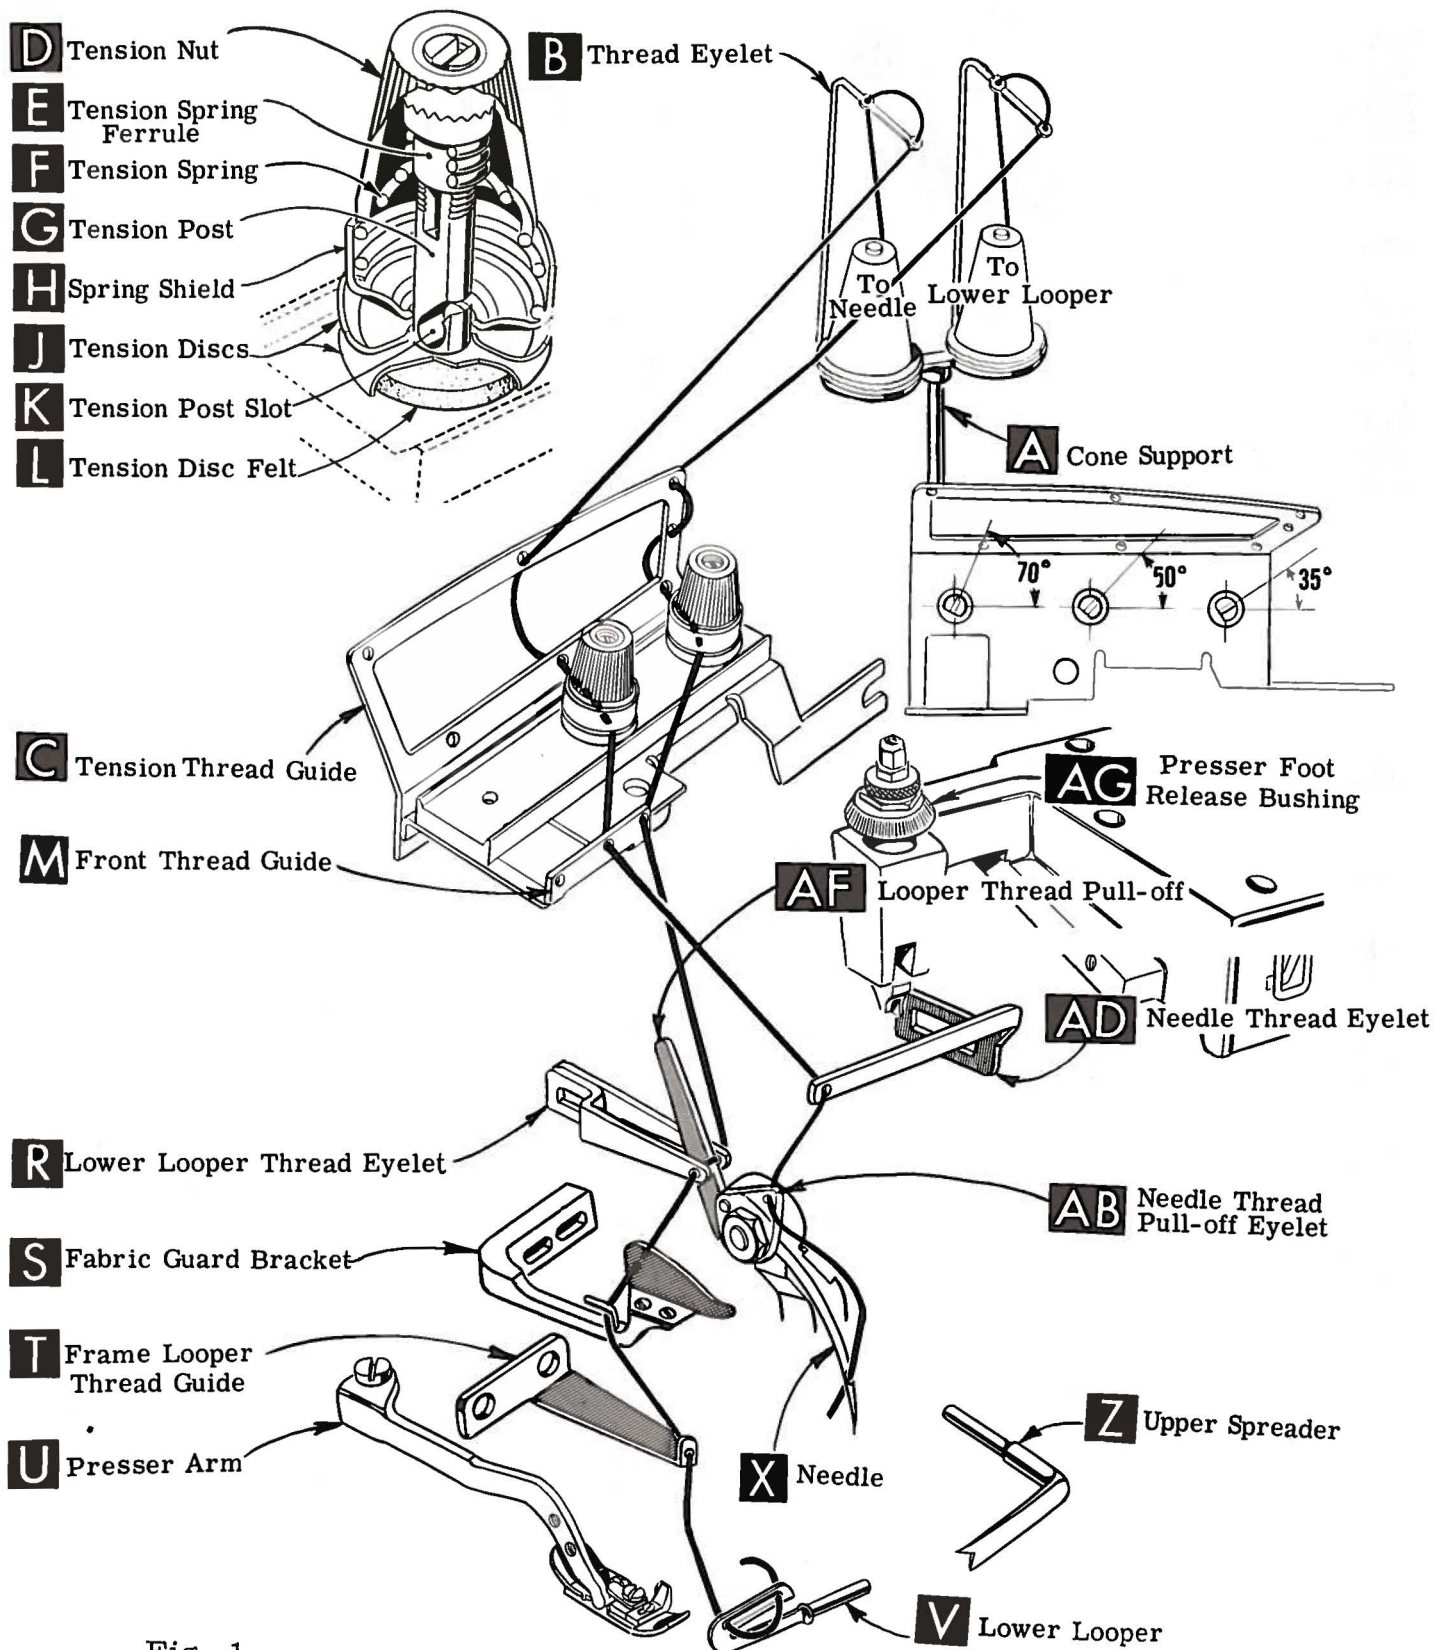
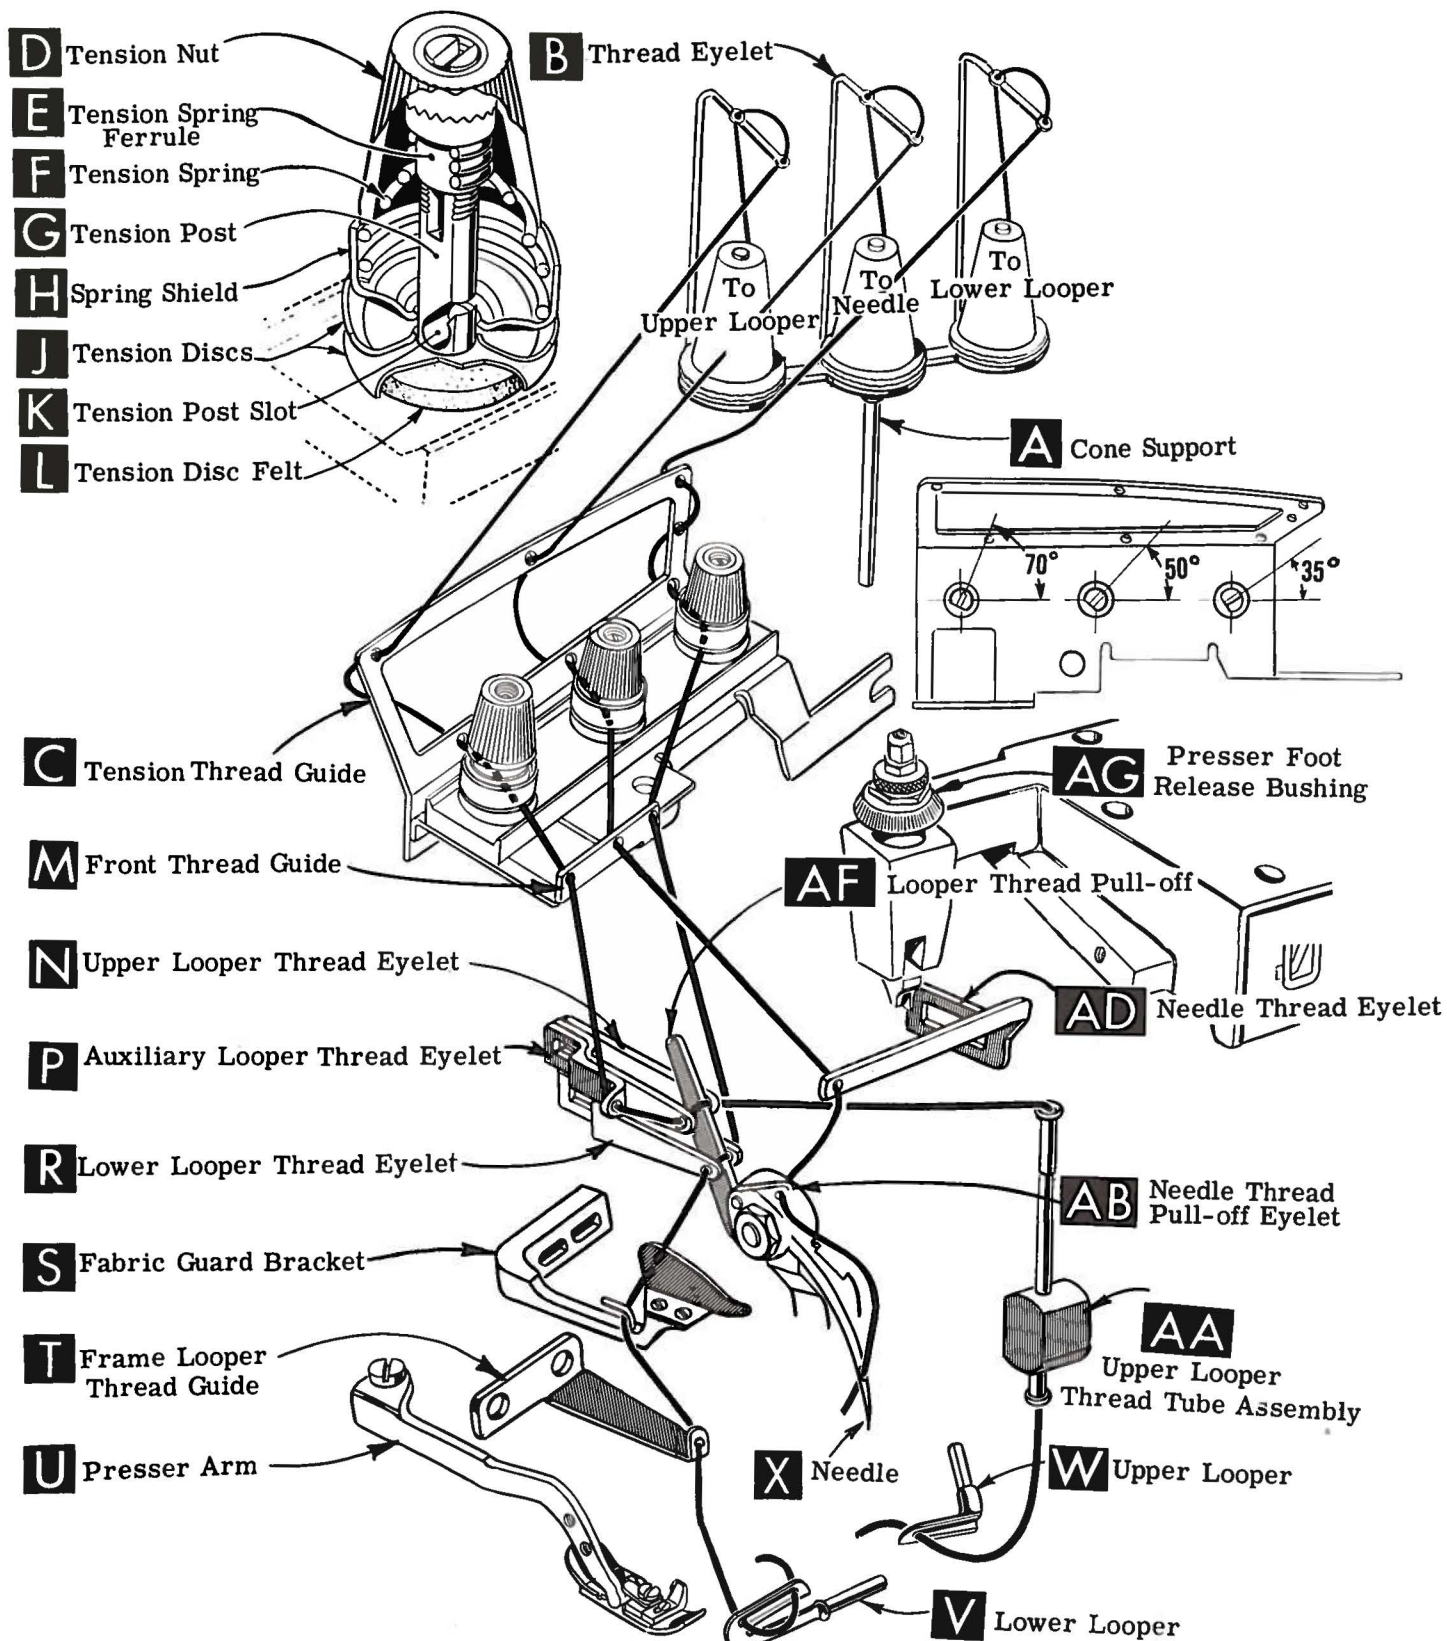

Fig. 1
Fig. 1A
Release pressure on presser foot by turning presser foot release bushing (AG, Fig. 1 and 1A) and swing presser arm (U) out of position. Turn handwheel in operating direction until needle is at its lowest point of travel. Using hexagonal socket wrench No. 21388 AU, furnished with machine, loosen needle clamp nut about 1/4 turn. Again turn handwheel until needle is at high position; withdraw needle.
After thread comes from cone on cone support (A, Fig. 1 or 1A) it is brought up through the back thread eyelet and then down through the front thread eyelet (B). Next, the upper looper thread (on Style 39500 FL only) and the needle thread on all Styles are brought through the upper hole of tension thread guide (C) from front to back and then through the lower hole, from back to front. The lower looper thread is brought through the upper hole of tension thread guide (C) from back to front, through the middle hole from front to back and then through the lower hole from back to front. All threads then continue between the tension discs (J), through tension post slot (K) in tension post (G) and on through eyelets in front thread guide (M).
NOTE: Refer to Fig. 1 for threading Styles 39500 FJ and JJ or refer to Fig. 1A for threading Style 39500 FL.
Only parts involved in threading are shown in threading diagram (Fig. 1 and 1A). Parts are placed in their relative positions for clarity.
Be sure the threads, as they come from the tension thread guide (C), are between tension discs (J) and in tension post slots (K) in tension posts (G). The tension posts should be positioned so the tension post slot will be at the approximate angle for the different threads as indicated in Fig. 1 and 1A.
Double end of thread and lead it through the right eyelet of front thread guide (M, Fig. 1 or 1A). Then lead thread through both eyes of lower looper thread eyelet (R, Fig. 1 or 1A) from right to left. NOTE: thread must pass in front of looper thread pull-off (AF). Lead thread behind fabric guard (S) and through frame looper thread guide (T). Turn handwheel in operating direction until heel of lower looper (V) is all the way to the left, then thread through both eyes from left to right. Left eye of lower looper can be threaded easily if tweezers are in left hand.
Double end of thread and lead it through the left eyelet of front thread guide (M, Fig. 1A). Turn handwheel until point of upper looper (W, Fig. 1A) is all the way to the left. Lead thread through auxiliary looper thread eyelet (P) from back to front, then through both eyes of upper looper thread eyelet (N) from left to right. NOTE: thread must pass in front of looper thread pull-off (AF).
Turn handwheel in operating direction until needle (X, Fig. 1 or 1A) is at its highest position. Insert thread through the middle eyelet of front thread guide (M, Fig. 1 or 1A), then lead thread through eye of needle thread eyelet (AD) from back to front. Now lead the needle thread under the neck of top cover casting and through hole in needle thread pull-off eyelet (AB) from right to left. Thread needle from the front.
The amount of tension on the needle and looper threads is regulated by knurled tension nuts (D, Fig. 1 or 1A). Tension on threads should be only enough to secure proper stitch formation.
Be sure machine Styles 39500 FJ and JJ are threaded according to threading diagram Fig. 1 and that machine Style 39500 FL is threaded according to threading diagram Fig. 1A.
With thread tensions light, set looper thread eyelet (R, Fig. 1) or looper thread eyelets (N and R, Fig. 1A) about horizontal and in the middle of their front to back location. Operate machine slowly, without presser foot in place, to make sure chain forms and moves off the tongue freely.